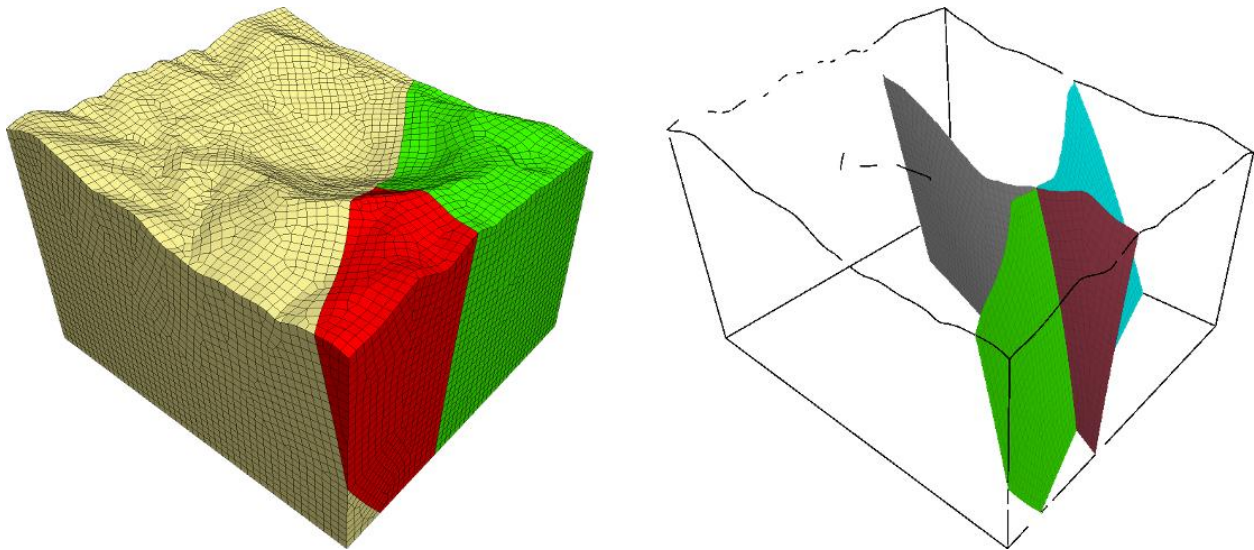

Figure 168: *Griddle* generated mesh read into *FLAC3D*.
3. Import *GVol.f3grid* into *FLAC3D*. Your mesh should appear similar to that shown below (Figure 168, left: zones, right: face groups generated by *Griddle*).